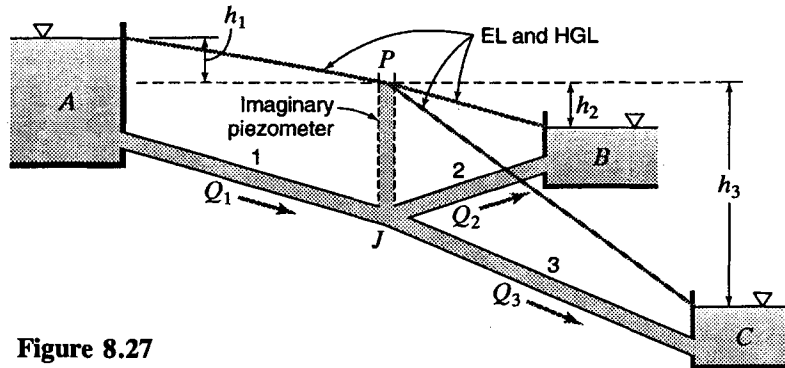

Figure 8.27
8.85 In Fig. 8.27, suppose that pipe 1 is 900-mm smooth concrete, 1500 m long; pipe 2 is 600-mm cast iron, 900 m long; and pipe 3 is 500-mm cast iron, 400 m long. The surface elevations of reservoirs A and C are 60 and 38 m, respectively, and the discharge through pipe 2 is 0.3 m3/s of water into reservoir B. The water temperature is 15°C. Using a basic scientific calculator only, find the surface elevation of reservoir B.